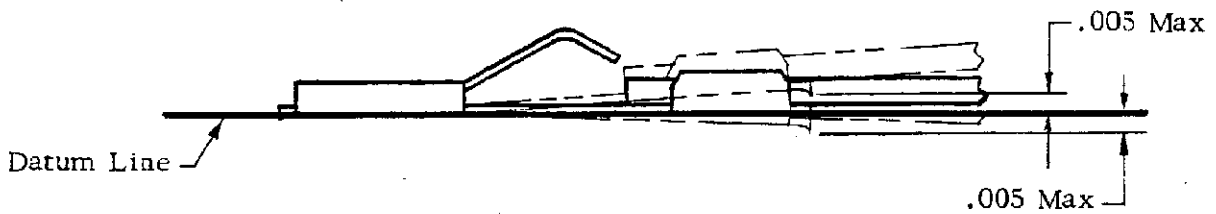

FIG. 2
- (1) The contact, including the cutoff tab and burr shall not be bent more than .005 above or below the datum line shown in Figure 2.